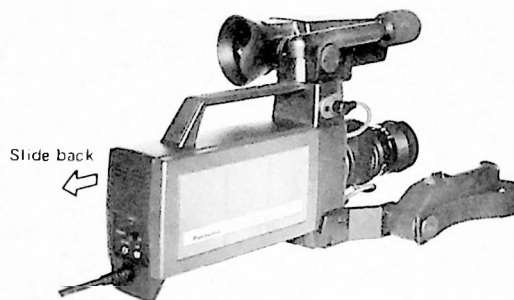

Fig. 2-1-2
- Slide back the both side covers about 1/2 inch (1cm) with care for unlocking them from the chassis (Fig. 2-1-2)